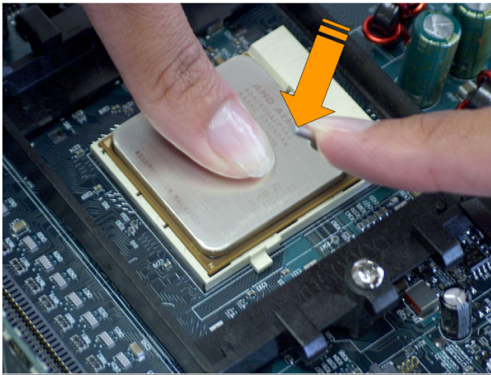

Figure 12. Pushing Gently Down on the Processor
12. Push down gently on the processor while lowering the locking lever and latching it into the fully locked position. (See Figure 12 on page 23.)